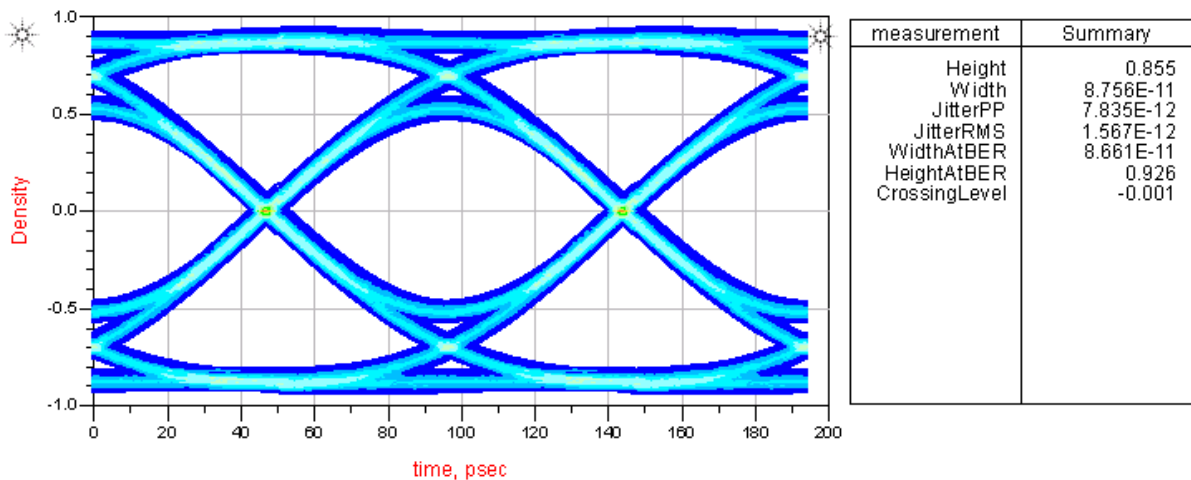

Figure 4: Eye plot for ASIC TX to DS1xxDF410 RX link with RX\_Config=2
8. The eye plot will appear in the plot window, as shown in Figure 4. Note that this is a plot of the eye as it appears after the DS1xxDF410’s CTLE and DFE equalization but before the retiming function, TX de-emphasis, and VOD are applied. This plot will be equivalent to the input to the decision slicer. It is also possible to simulate and plot the output of the decision slicer (by setting RX\_Config=0), however doing this will not give you visibility into the receiver’s eye opening margin.